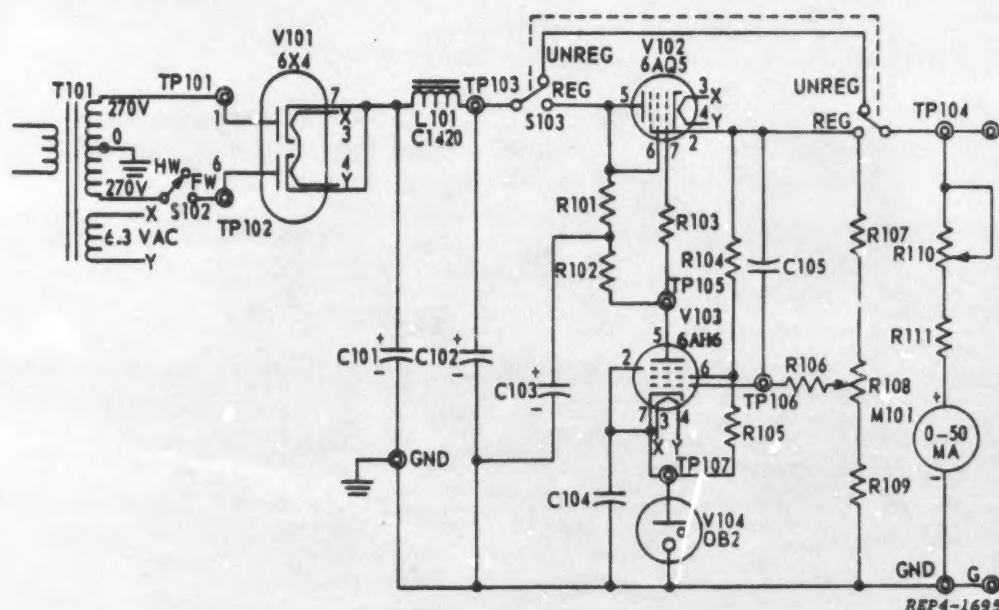

Figure 1-1. Power Supply Voltage Regulator Trainer
a. A schematic diagram of the power supply voltage regulator trainer is shown in figure 1-1.
(1) Inserting and removing regulator circuitry.
(2) varying load resistance.
(3) adjusting output voltage.
(4) monitoring circuit voltages.